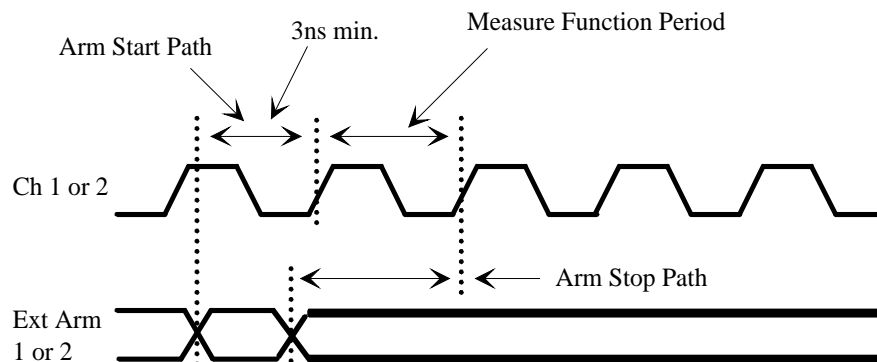

Figure 2-12. External Arm
1. Select which Arm, 1 or 2, arms which Channel 1 or 2. Arm 1 or 2 can separately arm Channel 1 and 2, or Arm 1 or 2 can arm both channels (see Figure 2-12).